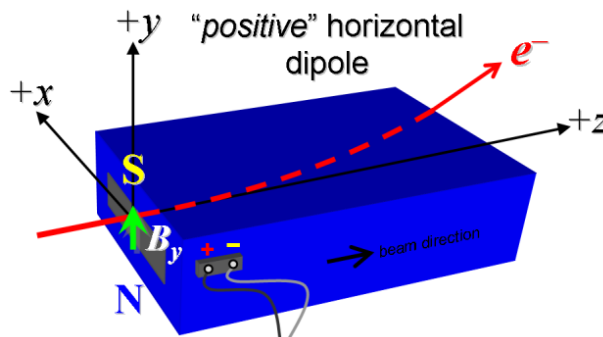

Figure 1 Bend 0.79D14.96 is "positive" polarity (bending electrons left).
Polarity marked according Table 1 parameters and to Fig. 1:	P
Trim coil polarity chosen from Fig. 1 is (P):	P